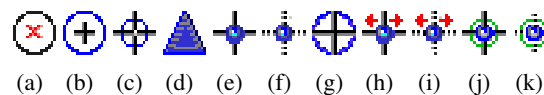

Figure 2.4-8: PVT Mode icons
- an icon indicating the current PVT mode of the Septentrio Receiver, see Figure 2.4-8 on the following page: